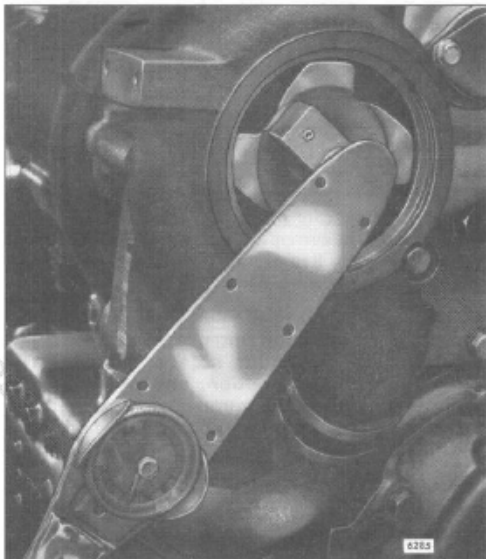

Fig. 9 - Checking Impeller and Gear Slip Torque with Tool J 33765
10. Check the water pump impeller and gear *slip torque*, as follows (Fig. 9):